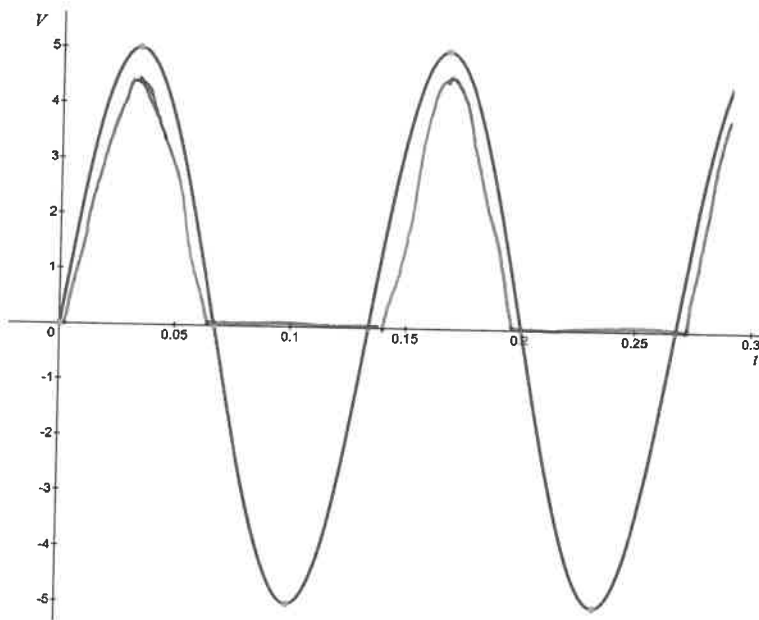

Figure 13: Input voltage for a half wave rectifier circuit..
- a) Complete the graph (Figure 13) showing the output voltage for the input voltage given.